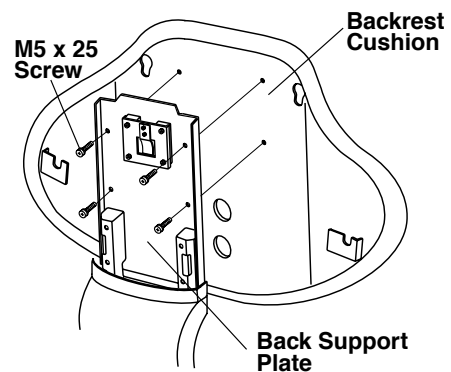

Fig.6-18 Fixing Backrest Cushion
- B. Fix the backrest cushion to the back support plate by 4 x M5 screws. (Fig.6-18)